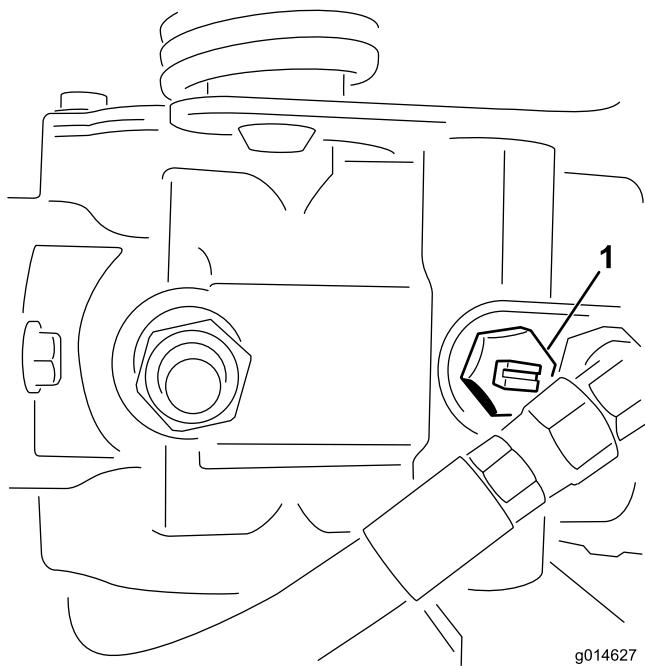

Figure 39
1. Locate the bypass valve on the pump and rotate it so that the slot is vertical (Figure 39).
2. Before starting the engine, close the bypass valve by rotating it so that the slot is horizontal (Figure 39). Do not start the engine when the valve is open.